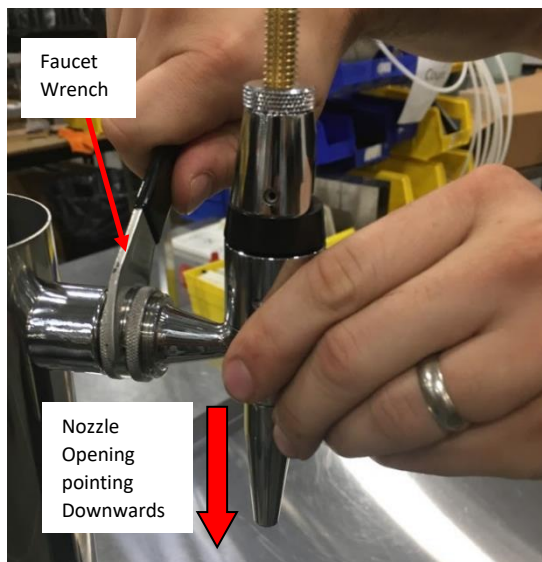

Figure 35: Install Faucet with Nozzle facing downwards.
- b. Use the Faucet Wrench to tighten the Faucet securely in place. Ensure that the nozzle opening is facing downwards. Insert the pin on the Faucet Wrench in the opening on the Shank Nut and apply leverage to tighten the Shank Nut. **See Figure 35.**